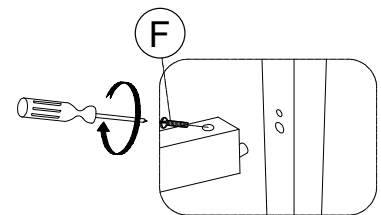

Figure 1
2. Attach bottom stretcher to the legs using Screw (F).As shown in Figure 1 .